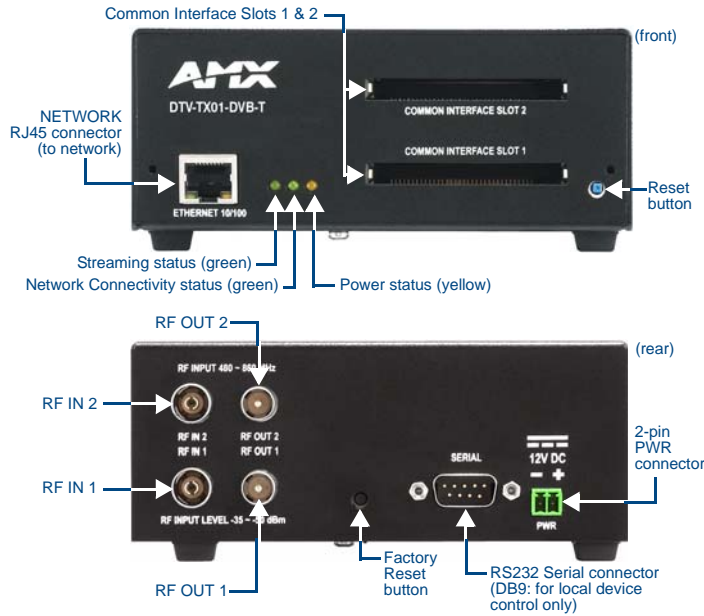

FIG. 1 DTV-TX01-DVB-T Transmitter
The DTV-TX01-DVB-T Transmitter is one component of an AMX TDS Television Delivery System. The AMX TDS system delivers digital TV and video signals across a privately provided IP network infrastructure. The DTV-TX01-DVB-T Transmitter (FG1410-01) supports DVB-T (terrestrial) signals, and features RF 1/2 OUT output connectors to allow multiple streams for maximum channel coverage (FIG. 1).
3. Release when the Streaming Status LED (see FIG. 1) begins to flash.